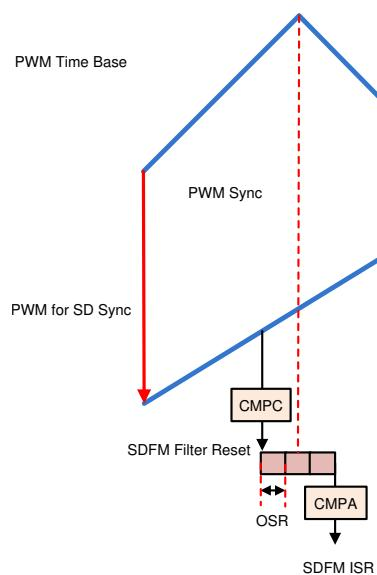

図 11. SDFM Filter Reset Being Generated From PWM Module and ISR Trigger to Read SDFM Registers
On these devices, the PWM11 is tied to the SDFM reset generation; hence, the sync generation involves propagation of the sync from the inverter PWM to the PWM11 module. As the SDFM data is only valid 3 OSR time periods after the sync is provided, determine the time to read the SDFM data. 図 11 shows the SDFM filter reset being generated from the PWM module and the ISR trigger to read the SDFM registers.
2. Confirm that the output filter is correct for the mode that the device will run in. For example, voltage source inverter uses an LC filter. The L2 and L2N slot must be jumper wired as shown in 図 11.